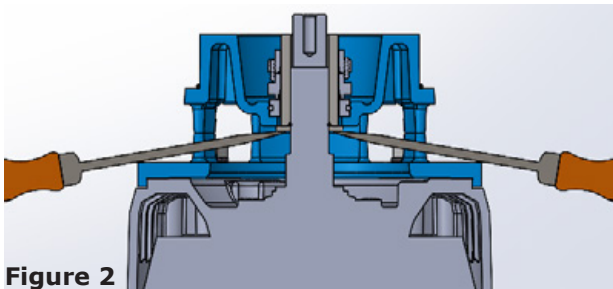

Figure 2
9. Pry the rotating member of the seal away from the motor by inserting two screwdrivers 180 degrees apart under the flinger and prying evenly until flinger hits the adapter. (Figure 2).